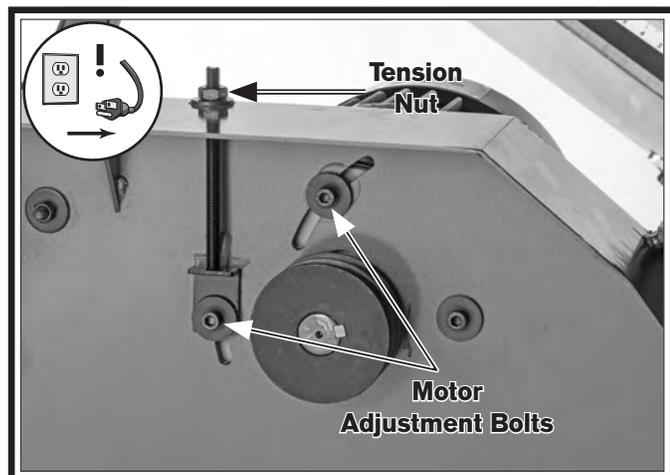

Figure 90. Location of V-belt removal controls (wheel removed for clarity).
3. Loosen motor adjustment bolts shown in **Figure 90**, then turn tension nut counterclockwise until belts are loose.